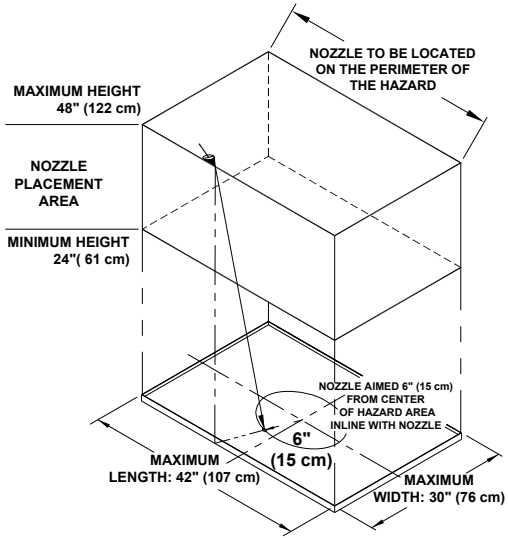

Figure 3-17.
The **Model N-1LP** nozzle is a one (1) flow point nozzle that can protect a griddle with a maximum cooking area of 42" (107 cm) wide by 30" (76 cm) deep. The nozzle must be located 24" (61 cm) to 48" (122 cm) above the cooking surface and positioned directly above the edge of the cooking area. The nozzle must be aimed 6" (15 cm) from the center of the cooking area in-line with the nozzle. See **Figure 3-17**.